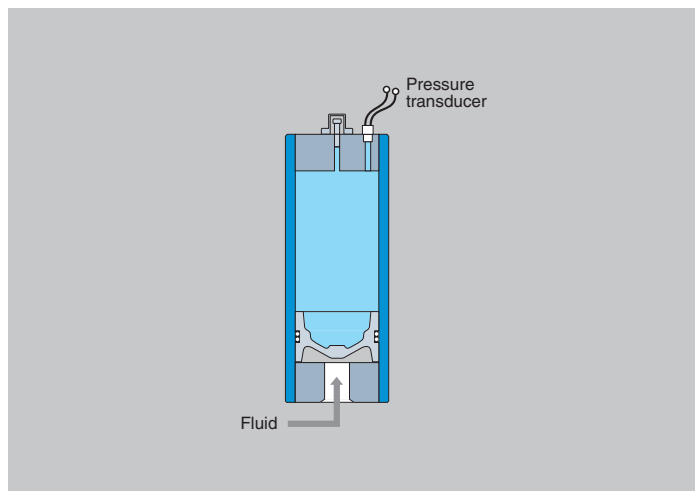

Fig.14a Pressure transducer measures actual precharge pressure of shut down system
- With the hydraulic system shut down. A pressure transducer or gauge located in the gas end cap (Fig.14a) indicates the true precharge pressure after the hydraulic system has cooled and the accumulator has emptied of fluid.